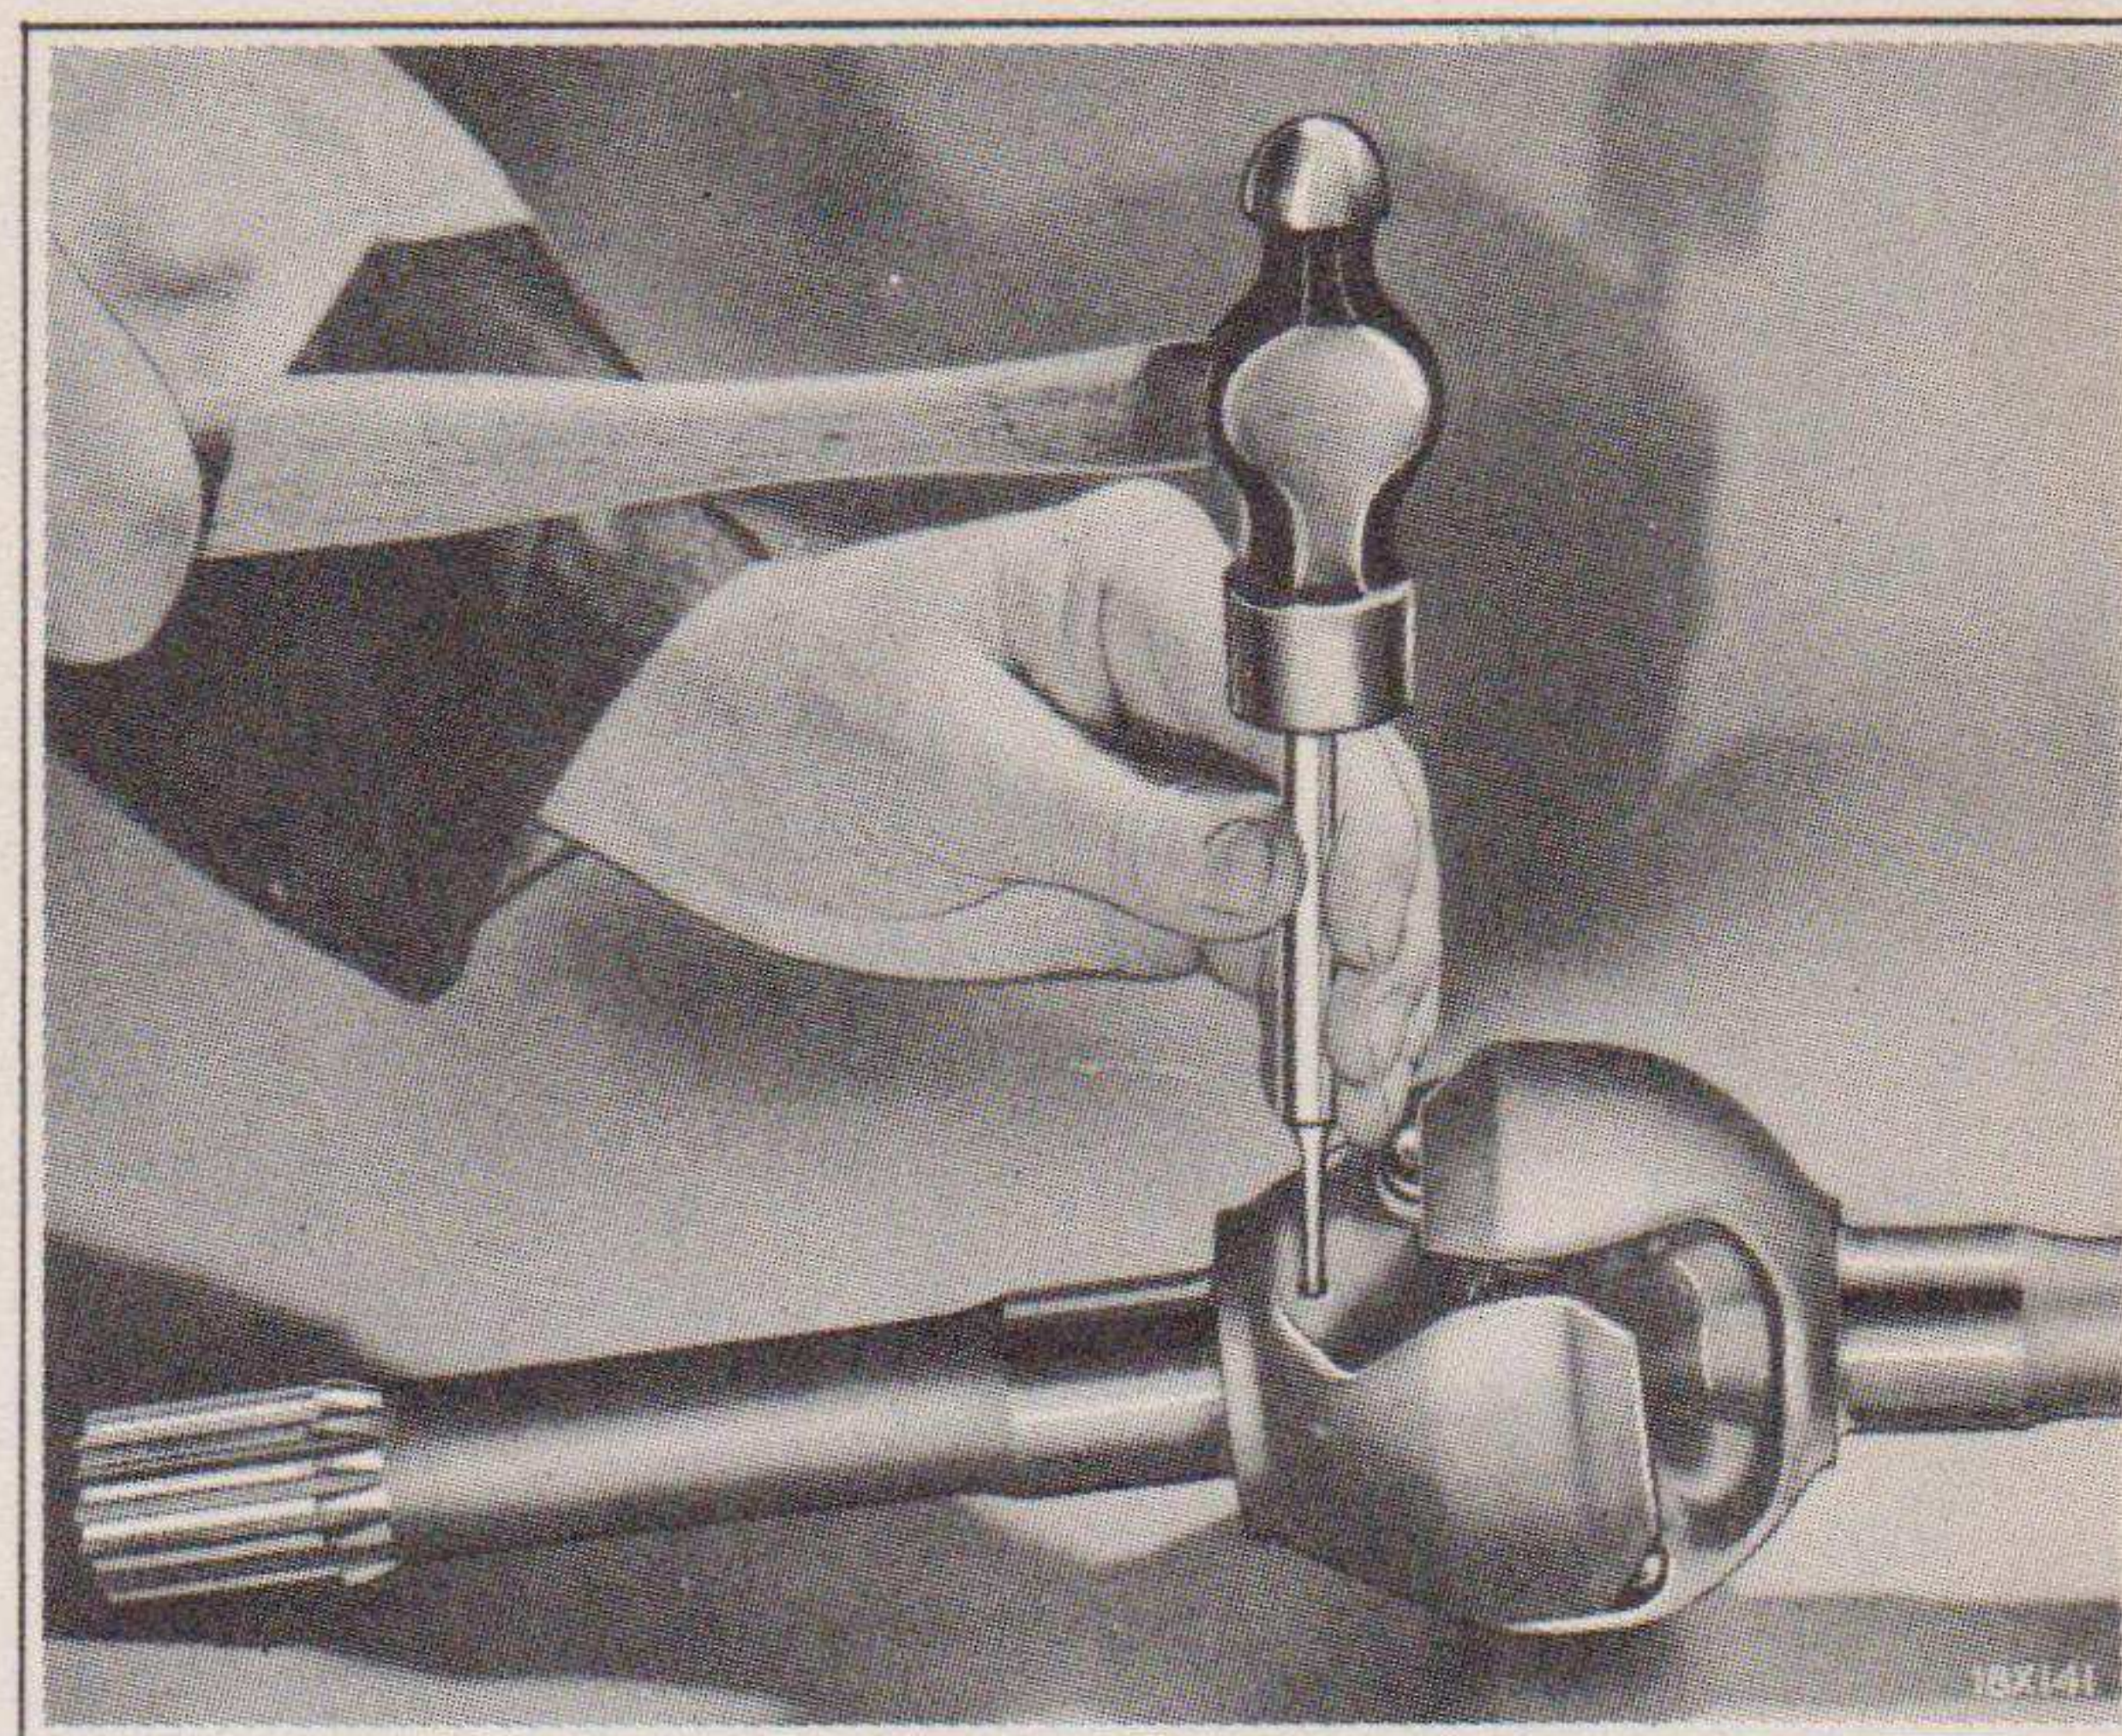

Fig. 16—Removing Universal Drive Center Ball
- (b) Drive out the center ball pin retainer pin as shown in Fig. 16.